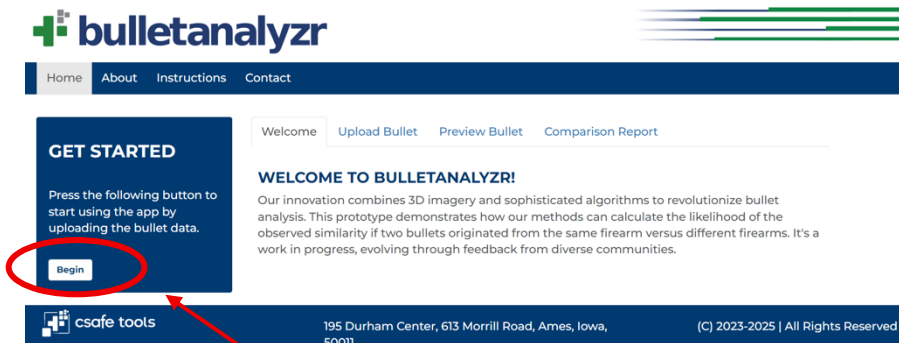

Figure 7. Click Begin on the BulletAnalyzr home page to get started.
- Click Begin on the BulletAnalyzr home screen. (Figure 7)